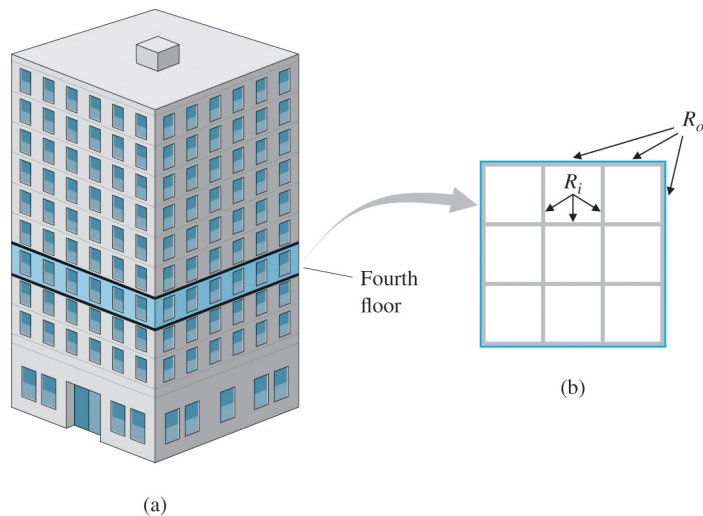

Fig. 2.59 Building air conditioning: (a) high-rise building, (b) floor plan of the fourth floor
26. An air conditioner supplies cold air at the same temperature to each room on the fourth floor of the high-rise building shown in Fig. 2.59(a). The floor plan is shown in Fig. 2.59(b). The cold air flow produces an equal amount of heat flow q out of each room. Write a set of differential equations governing the temperature in each room, where
27. For the two-tank fluid-flow system shown in Fig. 2.59, find the differential equations relating the flow into the first tank to the flow out of the second tank.